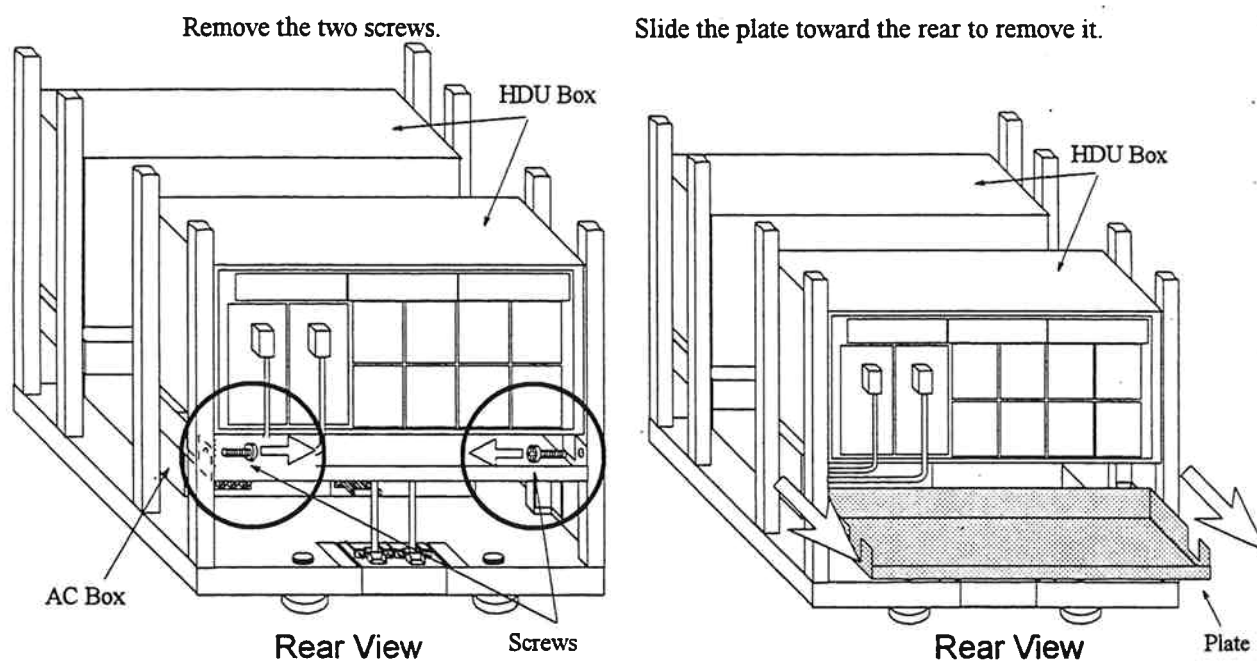

Fig. 3 Removal of Plate
- a. Remove the plate from the rear of the Disk Unit as illustrated in Fig. 3.